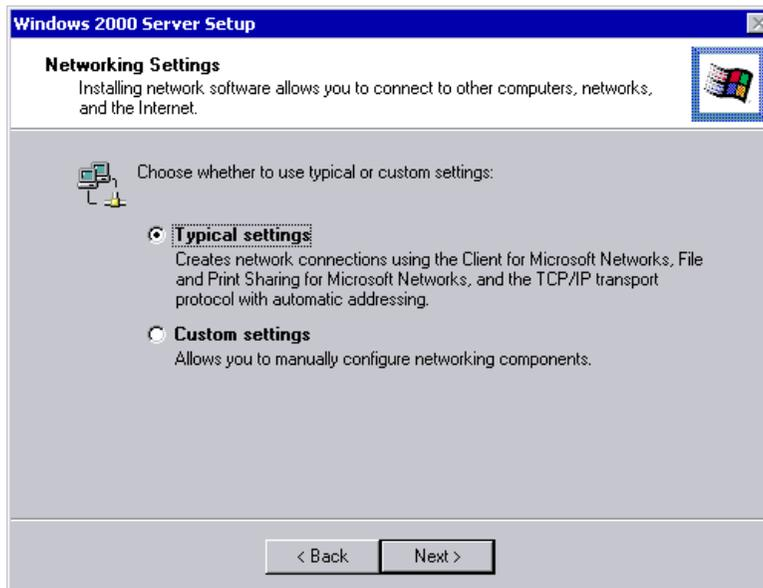

Figure 59. Network Settings
15. After all of the above settings are configured the Network Settings window appears and installs networking components. Then you are prompted to choose **Typical** or **Custom** settings as shown in Figure 59: